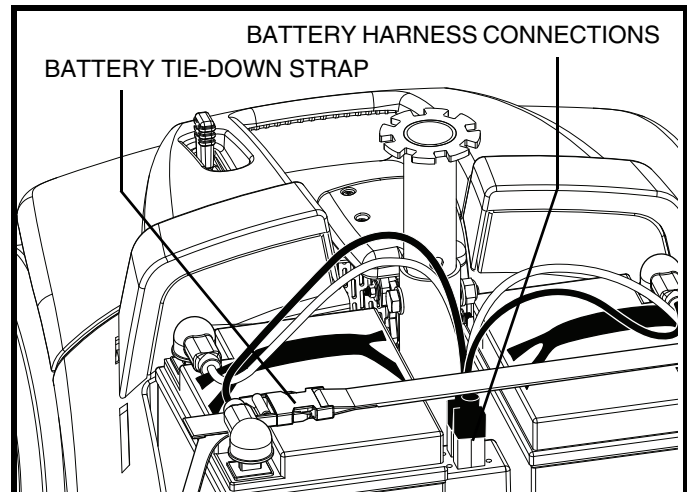

Figure 19. Harness Connections
4. Unplug both battery harnesses by pulling each harness straight up. See figure 19.
6. Connect both battery harnesses. See **figure 19**.